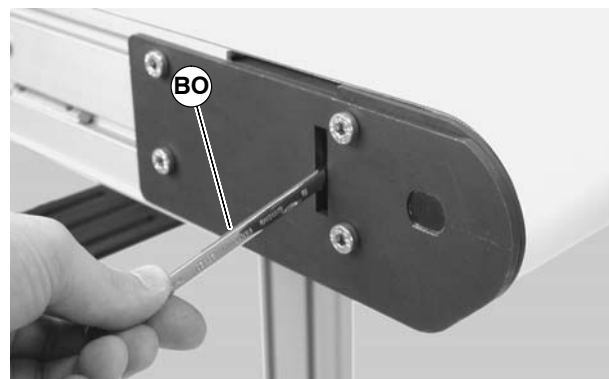
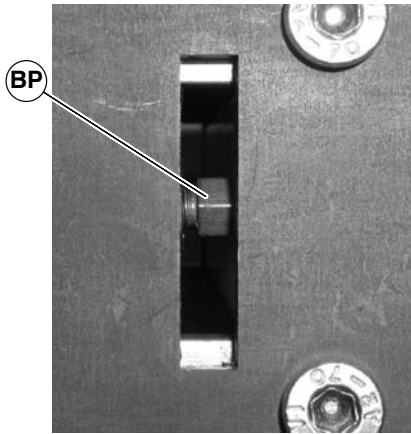

Figure 38
Figure 39
2. With the conveyor running, use wrench (BO of Figure 38) to rotate the tracking screw (BP of Figure 39) in small increments until the belt tracks in the center of the conveyor.